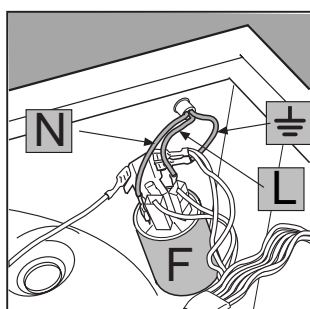

Fig. 14
- Disconnect the wires from the radio interference suppressor **F** [fig. 14] noting as to their position (**Blue=N** wire; **Brown=L** wire) leaving the earth wire until last \perp . *N.B.:* letters **L**, **N** and the symbol \perp are indicated on the